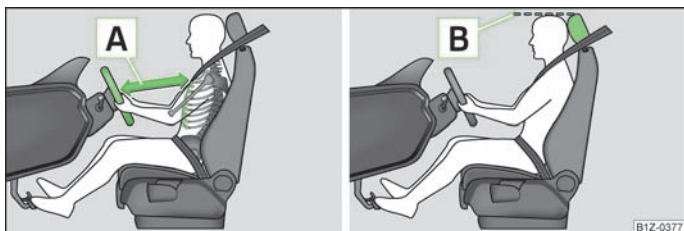

Fig. 110 The correct distance of the driver to the steering wheel/The correct head restraint adjustment
- Adjust the steering wheel so that the distance **A** » Fig. 110 between the steering wheel and your chest is at least 25 cm.
- Adjust the head restraint so that the top edge **B** » Fig. 110 of the head restraint is at the same level as the upper part of your head.